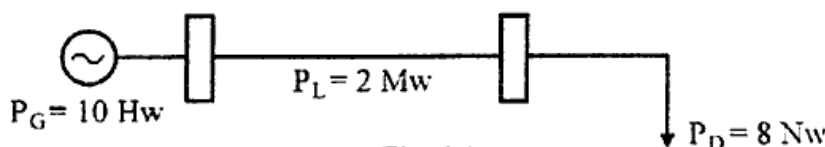

Fig. 4.1
4. a) Explain the need of an optimal Unit Commitment (UC) problem 4
- c) Determine the incremental cost of received power and the penalty factor the plant shown in fig. 4.1 if the incremental cost of production is 5